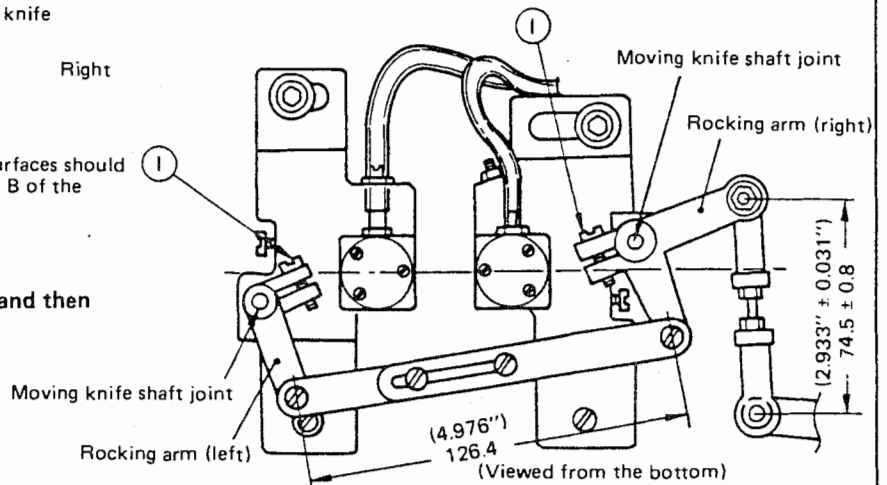

Fig. 29
1. Loosen screws ① to release rocking arm (Fig. 29).